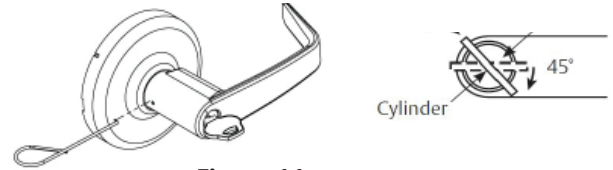

Figure 11
a. Standard Cylinder (Figure 11)